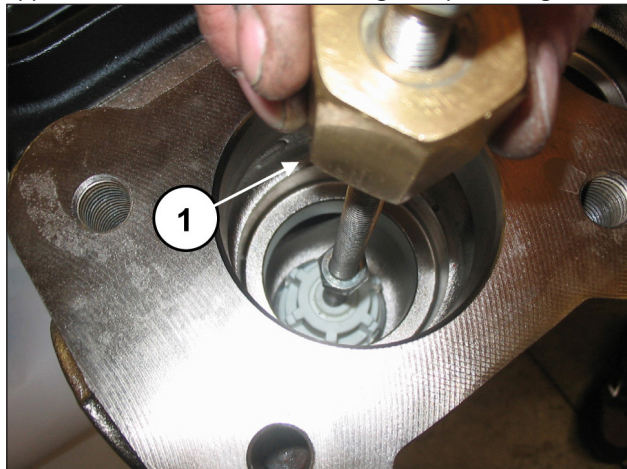

Fig. 84
Extract the suction valve unit with an extractor hammer to be applied on the M10 hole of the valve guide (pos. ①, Fig. 84).